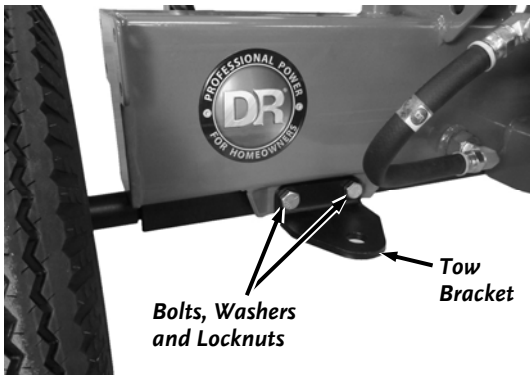

Figure 18
29. Install the Trays onto the sides of the Beam assembly by aligning the legs with the receiving tubes and secure with the Hitch Clips (**Figure 18**).
30. Remove the two left side Bolts, Flat Washers and Locknuts from the Tank and Axle using two 3/4" Wrenches. Position the Tow Bracket and secure with the hardware you just removed (**Figure 18**).